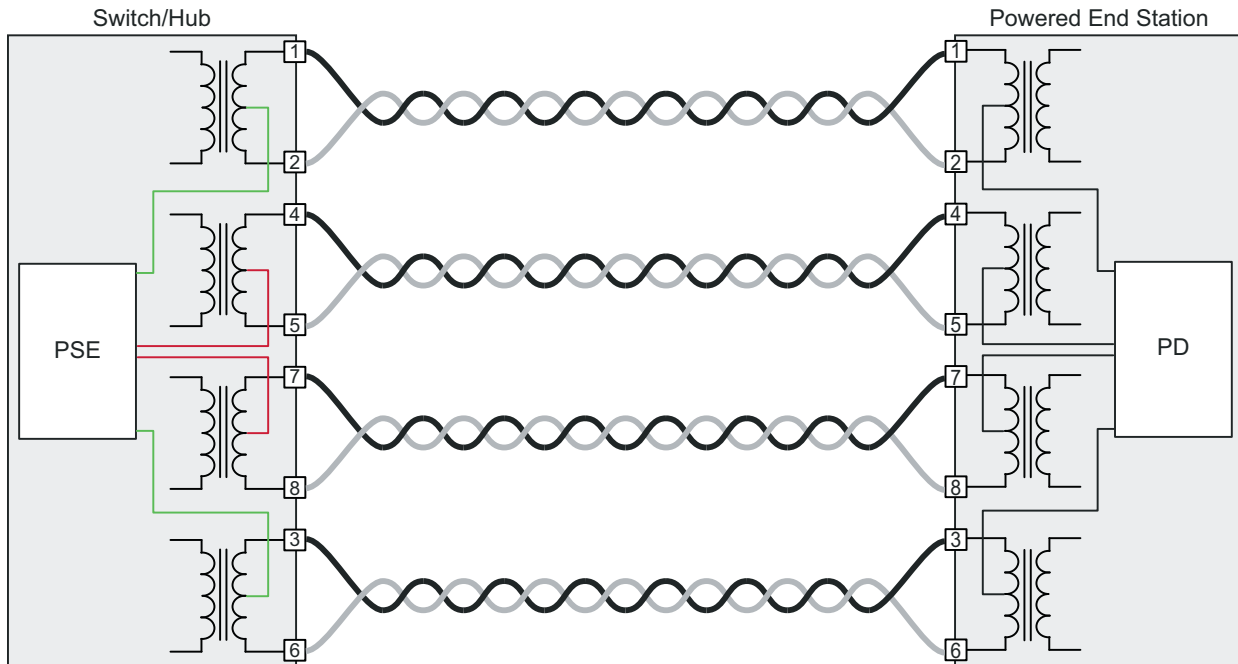

Figure 2: 1000BASE-T Endspan Powered (Alternative A – Green; Alternative B – Red)
- Endspan PSE, supporting 10BASE-T/100BASE-TX/1000BASE-T (Figure 2 on page 4)